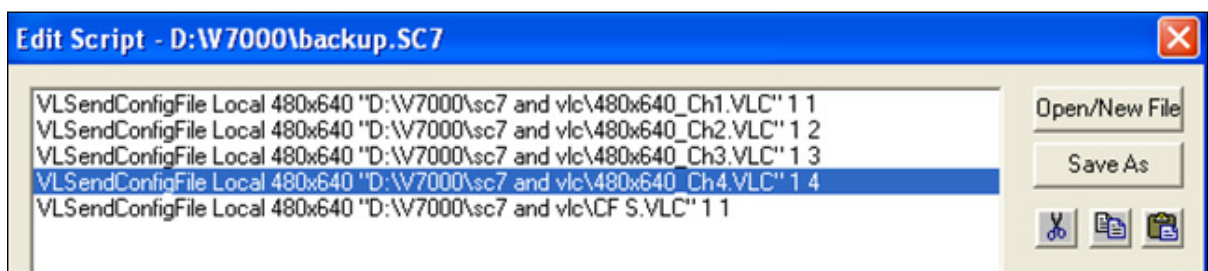

Figure 36: Saving Configuration
15. Repeat Steps 4-10, this time adding the CF S.VLC file to the script. When run, this scripting line will save the configuration on the VIP-4400. Refer to **Figure 36**.